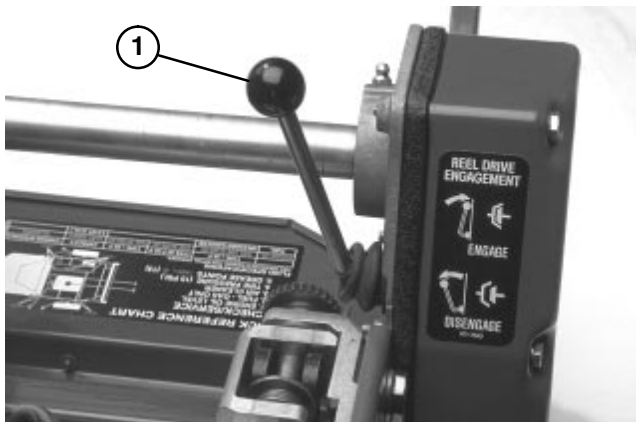

Figure 19
Reel Drive Engagement Lever (Fig. 19) - Located on right front corner of machine. Lever has two positions: ENGAGE and DISENGAGE. Pull up on lever to engage reel or push down on lever to disengage reel.
1. Make sure traction (Fig. 18) and reel drive (Fig. 19) levers are in DISENGAGED position.